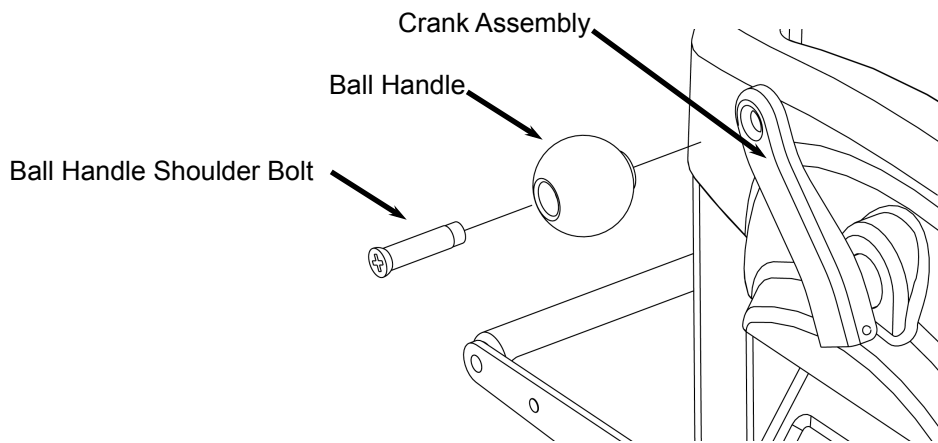

FIGURE 1: REMOVING THE BALL HANDLE
7. **Remove the ball handle.** Remove the ball handle from the crank lever using a Phillips screwdriver as shown in Figure 1. Do not remove the entire crank assembly from the machine.
- Crank Handle Ball and Shoulder Bolt (Figure 1)